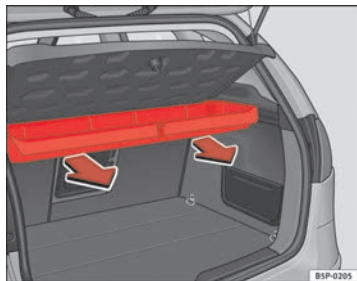

Fig. 125 Removing storage shelf
- Pull outwards until the compartment is freed from the pivot point \Rightarrow fig. 125.